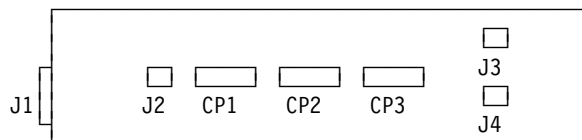

Figure 5-9. 3746-A11 Auxiliary Power Box (Rear View)
- Step 3. \_\_\_\_ From the rear of the 3746-A11, plug cable **2** into socket J1 on the left side of the 3746-A11 auxiliary power box in 02J-A0 (see Figure 5-9 below).